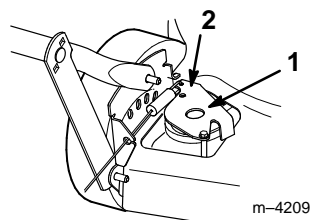

Figure 19
3. Push the drive bracket down until it contacts the mower, then hold it in place (Fig. 19).